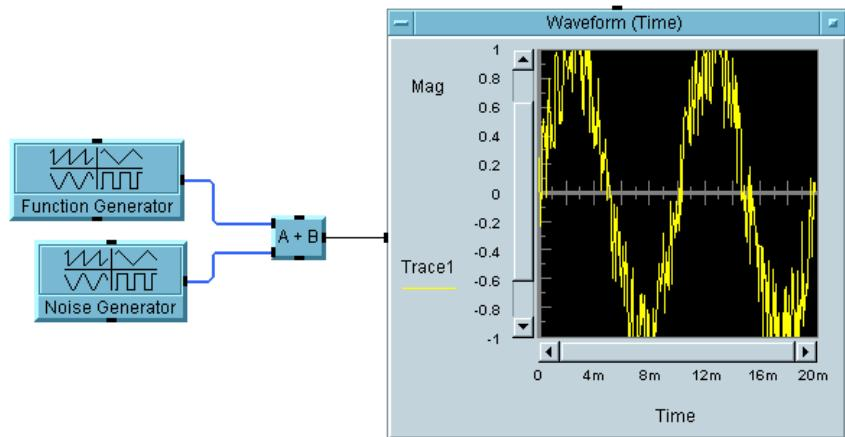

Figure 2-2. usrobj-program.vee at an Early Stage
5. Then, minimize the `Noise Generator` object and rearrange the objects as shown Figure 2-2.